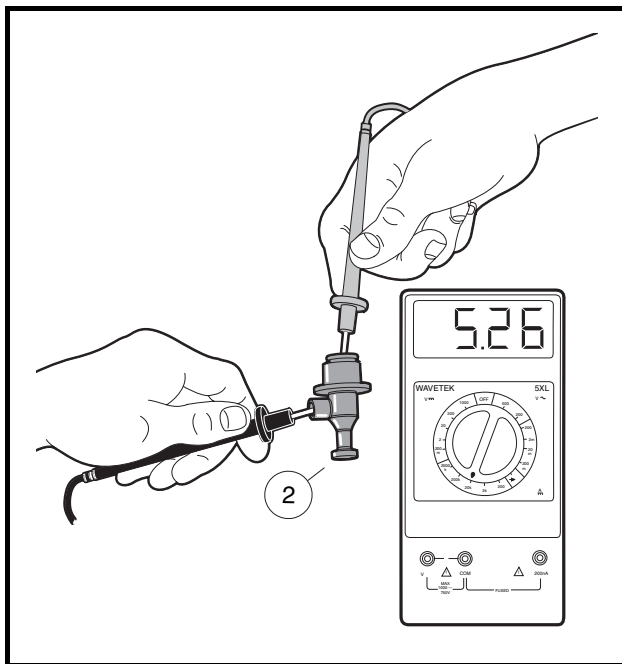

Figure 11-28 Spark Plug Cap Test
spark plug cap that normally connects to the spark plug and place the black (–) probe into the end of the cap with the internal screw (**Figure 11-28, Page 11-26**). If the resistance is not between 4.5k - 6.0k ohms, the cap has failed and must be replaced. Proceed to the next step with the spark plug cap still removed.
- 4.3. Using a multimeter set to 20k ohms, place the red (+) probe of the multimeter into the end of the spark plug cap that normally connects to the spark plug and place the black (–) probe into the end of the cap with the internal screw (**Figure 11-28, Page 11-26**). If the resistance is not between 4.5k - 6.0k ohms, the cap has failed and must be replaced. Proceed to the next step with the spark plug cap still removed.